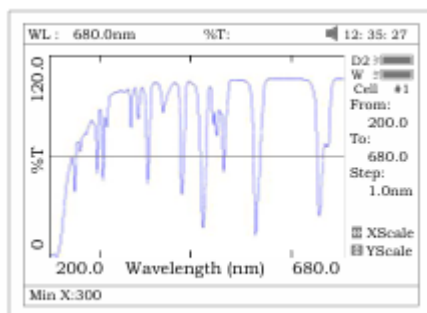

Fig.47
5. If you want to change the scale, press **【<】** or **【>】** to change the “x” scale(Fig 47) and input the upper limit and lower limit by pressing the numeric keypad . To change the “y” scale press **【0】** or **【0】** .